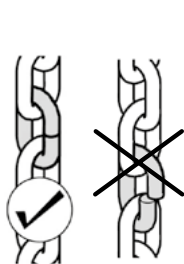
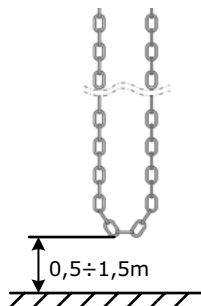

Figure 6
Figure 7
- the chain should be assembled and disassembled using special links (fig. 6). The edge of the chain of the emergency manual control when assembled should be at a height of 0.5~1.5 meters (fig. 7). If necessary, shorten the chain. The maximum length of the chain in an installation kit is 10 m. If the length of the chain is not sufficient, then it is necessary to purchase a chain of the required length.